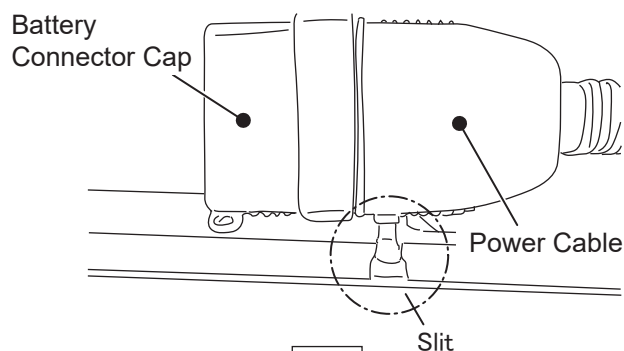

Fig.5
5. Remove the battery connector cap from the power cable.(Fig.5)
3. Attach the battery connector cap to the power cable.(Fig.5)